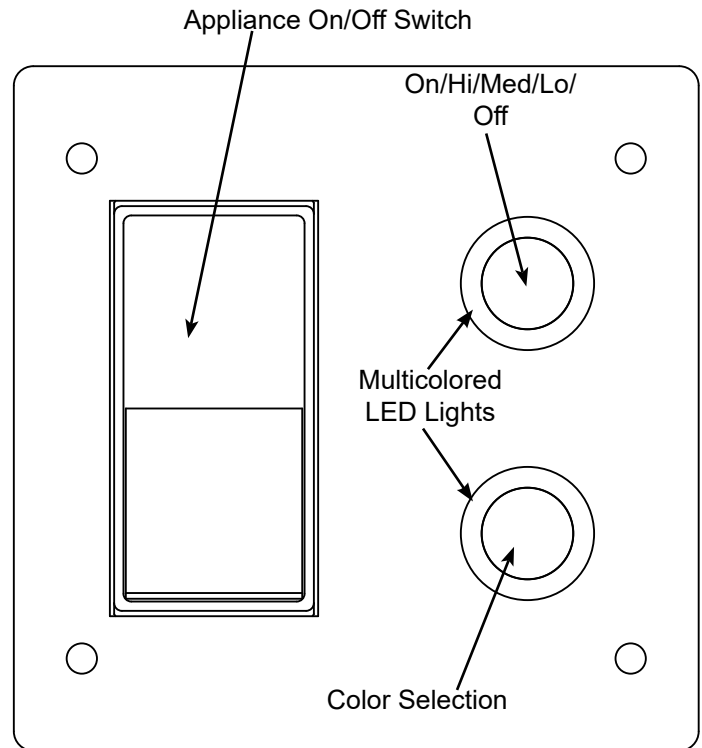

Figure 4.9 Wall Control Switch
- Multi-colored LED lights - The two (2) round buttons on the right in Figure 4.9 turn LEDs ON (HI/MED/LO) and OFF function and cycle through the color selection.